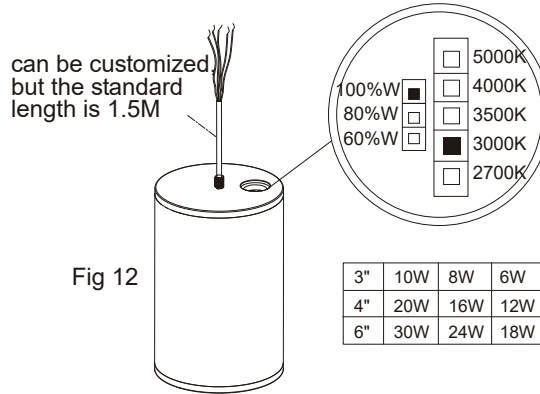

Fig 12
1. Adjust the length of the wire according to the actual needs. Select CCT and power according to the requirements. (Fig 12)